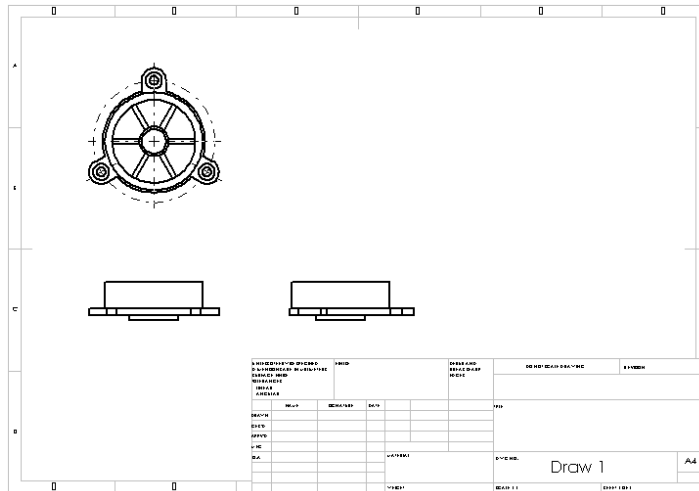

Figure 12-52 Projected views derived from the top view
10. Move the cursor horizontally toward the right and specify a point on the screen to place the view. Figure 12-52 shows the views generated from the parent view using the **Projected View** tool.